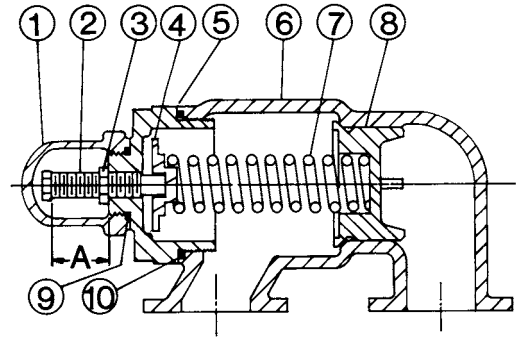

FIGURE 12
2. Measure and record the length of extension of the adjusting screw. Refer to "A" on Figures 12 and 13.